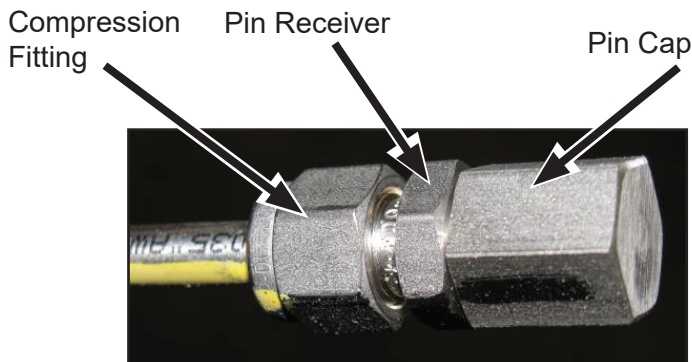

Figure 38: Wire from the LT102B being cut at the pin receiver.
1. Remove and retain the pin cap from the pin receiver (Figure 38). Hold the pin receivers flats steady with a 9/16" wrench and use a second wrench to unscrew the pin cap. **DO NOT** turn the pin receiver.